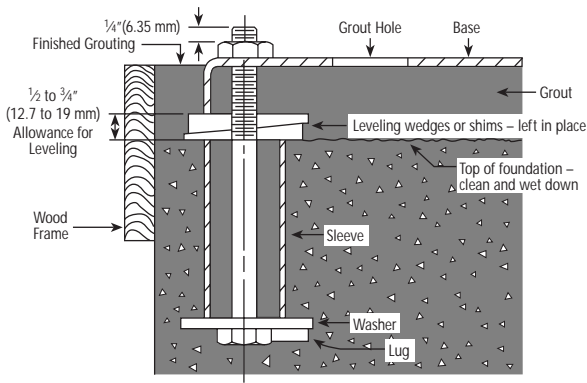

Figure 1
- Bedplate must be grouted to a foundation with solid footing. Refer to Figure 1.